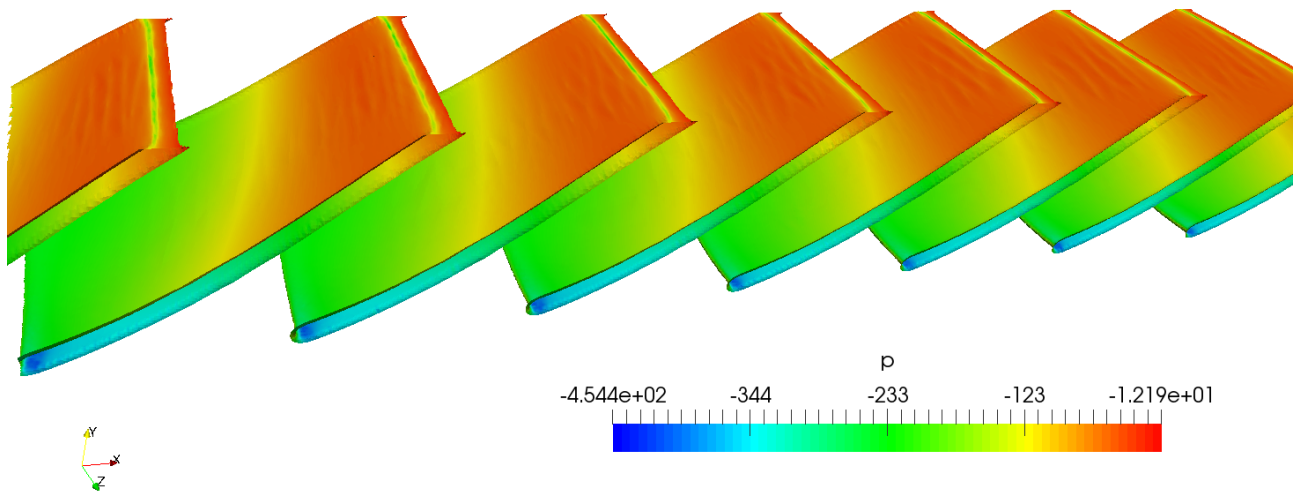

Figure 16.23: Blades of a pump transformed by Turbo Blade Post – Turbo Unwrap to a straight arrangement and displaying pressure field computed by TCFD.
Step 6 — Click on *Apply*. The transformation should be relatively fast, because the surface mesh of the blades is orders of magnitude easier to process than the full volume mesh. It may be necessary to zoom in or out a little (depending on the geometry) to make the result fit to window. Outcome of this step is shown in the Fig. 16.23, where the blades are coloured by pressure.